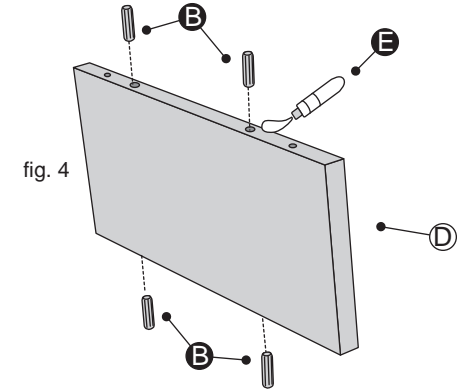

fig. 4
1. Place a small amount of Glue **E** into the dowel holes. Insert Dowels **B** into the Side Panels **D** and Middle Panel **E**. See fig. 4.